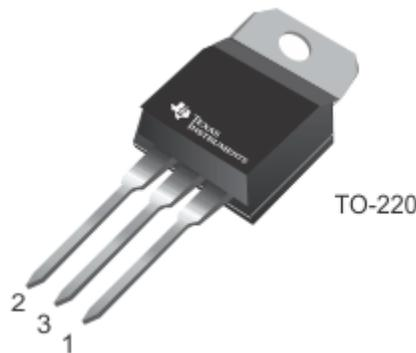
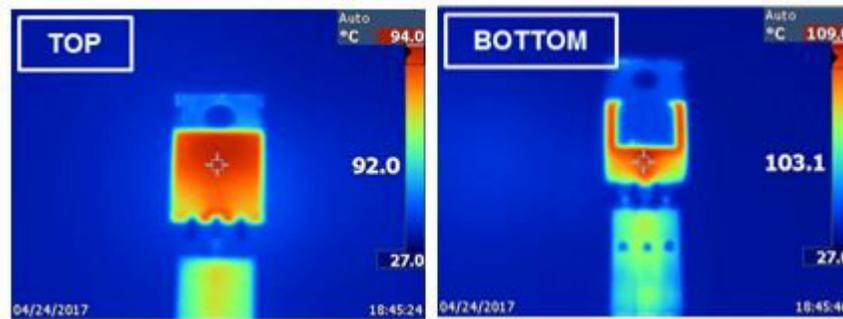

Figure 1. 3-Pin to-220 Package
Figure 2. Case Temperature for the UA7805 under 12V to 5V/200mA
Among the available linear regulators in the market, the UA7805 family is very popular – it comes with fixed output voltages and is typically available in a standard three-pin transistor outline (TO)-220 package (Figure 1). The three pins are V_{IN} , V_{OUT} and GND. A good example is the UA7805, which features a fixed 5V output and benefits from the advantages I listed above. The UA7805 does have an obvious disadvantage in applications where the input voltage is high, however: large power dissipation.
That 1.4W turns into heat, which dissipates through the case and the air. Figure 1 is the case temperature for the UA7805 under 12V to 5V with 200mA output current. Without a heat sink, the case temperature could rise as high as 103.1°C. When taking the thermal resistance from junction to case into account, the internal die temperature is even higher. The TO-220-packaged UA7805 supports output currents of up to 1.5A, but under 12V-to-5V conditions, the UA7805 must significantly limit its output current. With higher input voltages (such as the popular 24V supply), this linear regulator becomes unusable due to thermal issues. Figure 2 is the case temperature for the UA7805.